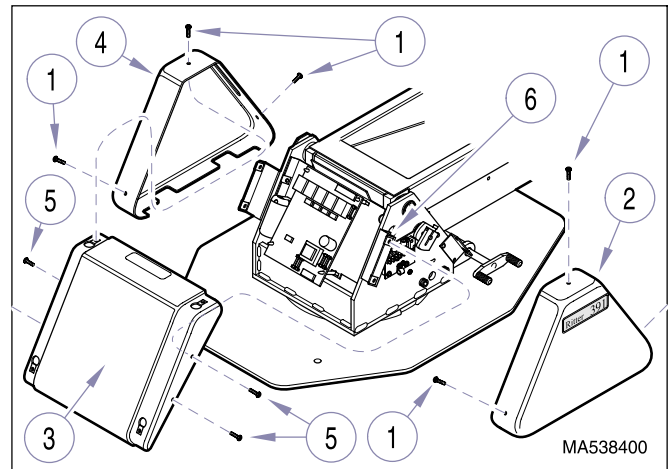
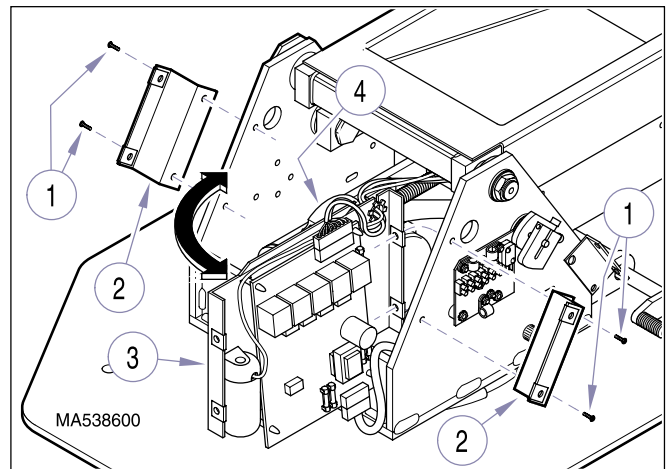
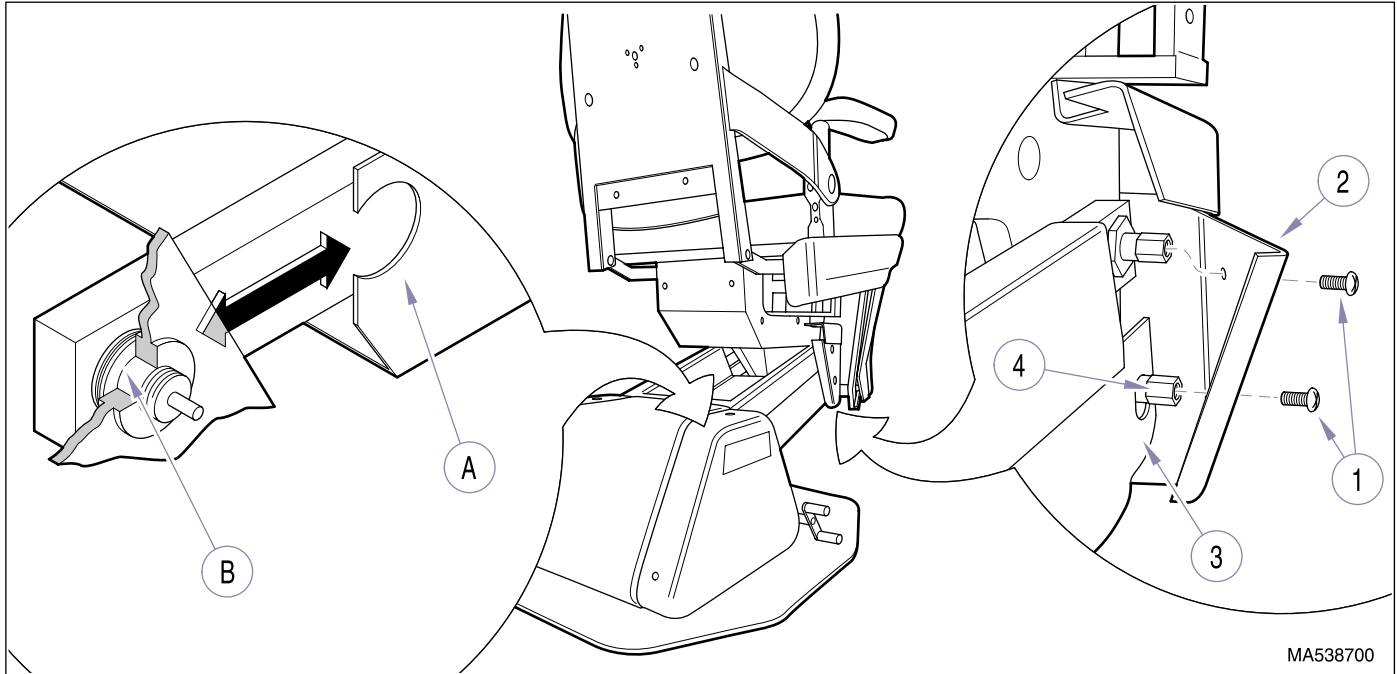
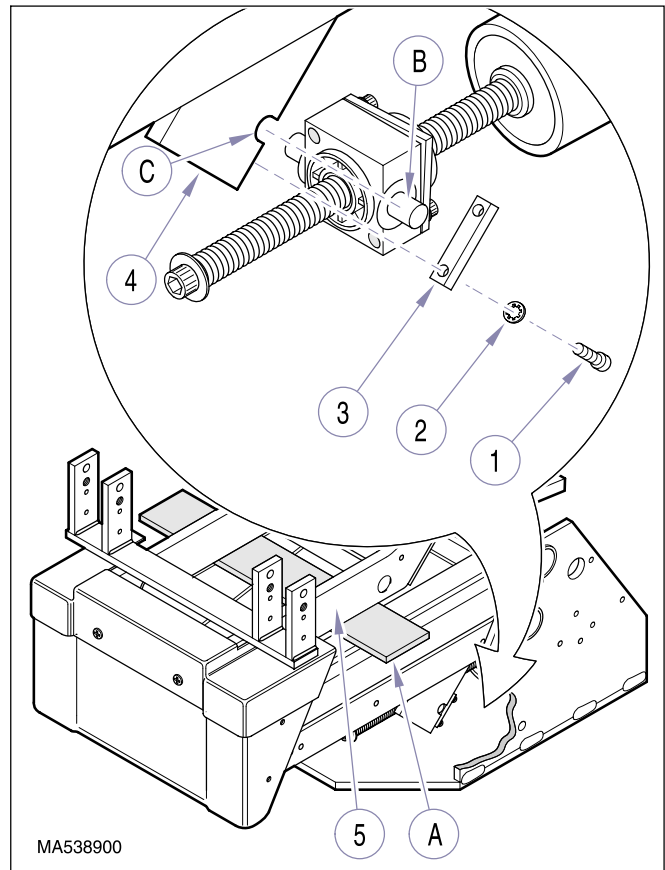

Figure 4-3. Base Covers Removal / Installation
Figure 4-4. Base Motor Access
Figure 4-5. Lift Arms Covers Removal / Installation
Figure 4-6. Base Motor Trunnion Removal / Installation
- (1) Unplug chair power cord from wall outlet receptacle.
- (2) Remove three screws (1, Figure 4-3) and R.H. base cover (2) from center base cover (3).
- (3) Remove three screws (1) and L.H. base cover (4) from center base cover (3).
- (4) Remove four screws (5) and center base cover (3) from two cover mounting brackets (6).
- (5) Remove four screws (1, Figure 4-4) and two cover mounting brackets (2) from mounting plate (3).
- (7) Remove four screws (1, Figure 4-5); two from each side of seat cover bottom (2).
- (8) Pull outward on one corner of seat cover bottom (2); then pull outward on corner of bottom lift arm cover (3) until it clears standoff (4). Repeat step for other corner and remove bottom lift arm cover (3) from chair.
- (9) **If base motor is operable:**
- c. Remove four screws (1, Figure 4-6), lock-washers (2), and trunnion retainer plate (3) from lift arms assembly (4).
- b. Remove four screws (1, Figure 4-6), lock-washers (2), and trunnion retainer plate (3) from lift arms assembly (4).
- (7) Raise BASE UP function up while guiding trunnion arms (B, Figure 4-6) into trunnion slots (C). Make sure trunnion arms are fully seated in trunnion slots, before proceeding to the next step.
- (8) Raise BASE UP function all the way up and remove steel bar (A) or other type of supports.
- (9) Install trunnion retainer plate (3) on lift arms assembly (4) and secure with four lockwashers (2) and screws (1).
- (10) Pull outward on one corner of seat cover bottom cover (2, Figure 4-5); then install bottom lift arm cover (3) on standoff (4), making sure cut-out (A) is mounted on lift arms joint (B). Repeat step for other corner of bottom lift arm cover.
- (11) Install four screws (1); two on each side of seat cover bottom (2).
- (12) Position mounting plate (3, Figure 4-4) back in its normal position, making sure all wire harnesses are routed correctly.
- (13) Secure mounting plate (3) in place with two cover mounting brackets (2) and four screws (1).
- (14) Install center base cover (3, Figure 4-3) on two cover mounting brackets (6) and secure with four screws (5).
- (15) Install L.H. base cover (4) on center base cover (3) and secure with three screws (1).
- (16) Install R.H. base cover (2) on center base cover (3) and secure with three screws (1).
- (17) Plug chair power cord into wall outlet receptacle.